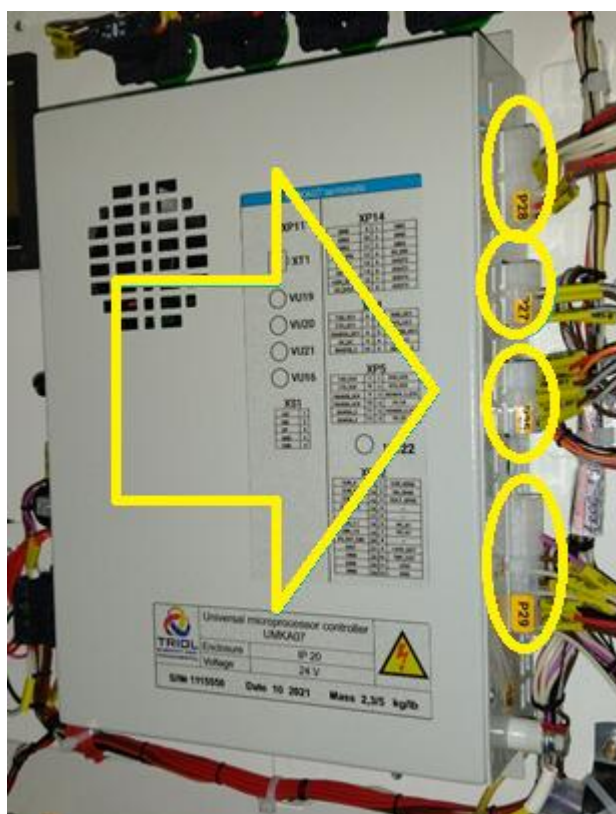

Figure 11 – Places of the connectors of an UMKA07 controller
1. Disconnect all signal connectors from a terminal blocks which is shown at figure 11.